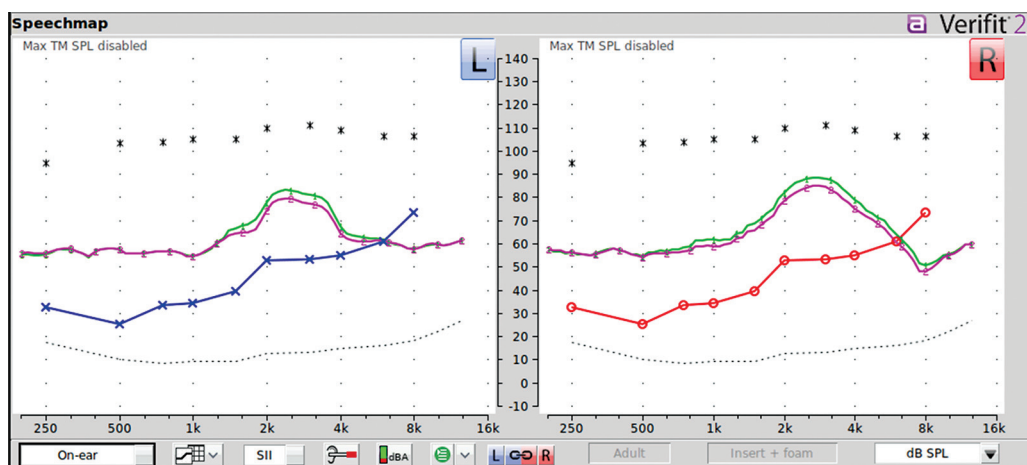

Figure 24 Reduction in gain with noise reduction activated (weak).
- Now run another curve using the same input. As time goes by, you will observe a drop in real-ear output gain (Figures 24 and 25).